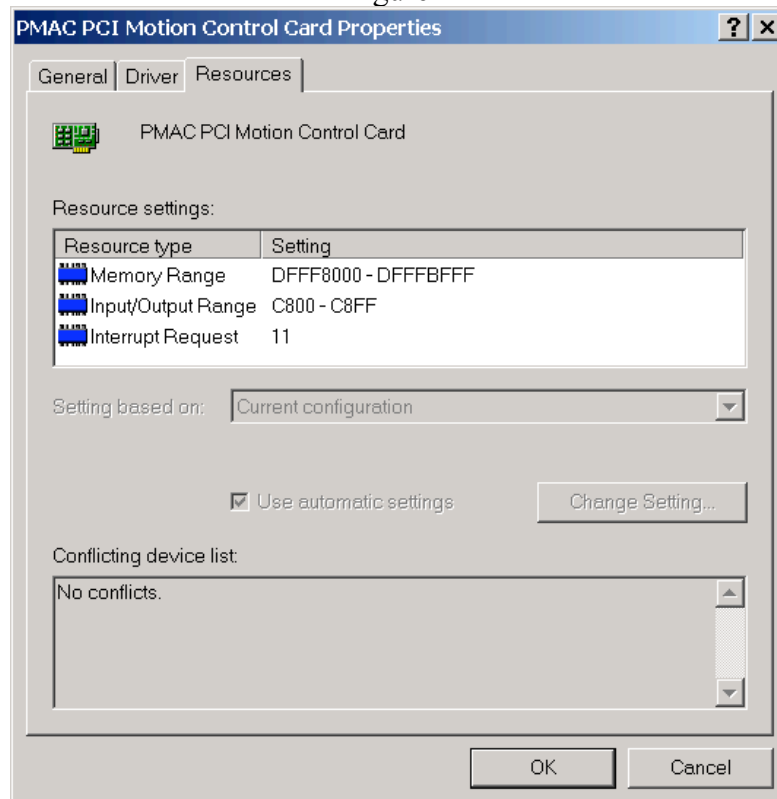

Figure 5
5. In the “PMAC PCI Motion Controller Card properties” window, select the resource tab. From the resource settings, the beginning value for the input/output range is the Base I/O Address Figure 5. In figure 5, the base I/O address is 0xC800 (notice that the value is always a hex number). The parameter must always be entered as a single quotation text string. For example: ‘0xC800’.